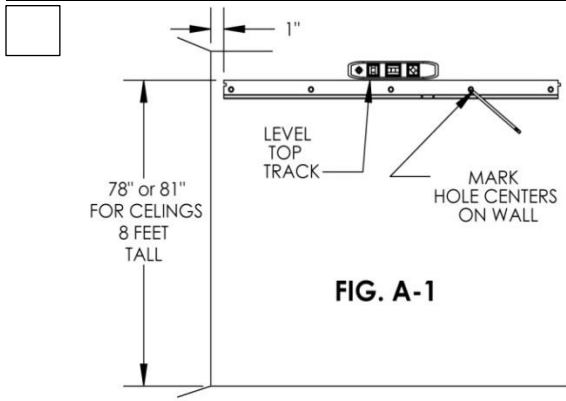

FIG. A-1
2. Determine the maximum height of storage you would like available above your system. (See Fig. A-1). For an 8 foot ceiling; 78" off the floor leaves 18" of storage above and 81" leaves 15" storage above.
4. (Refer to Fig. A-1 & A-2) Using a level, align top of top track with your pencil mark in step 3. With top track level, mark the center of each hole's location on your wall. (Note: Before starting to drill holes always make sure all screw hole locations do not fall in line with electrical wires, duct work or plumbing inside of your wall. If a potential problem exists, reposition and remark screw hole locations.)